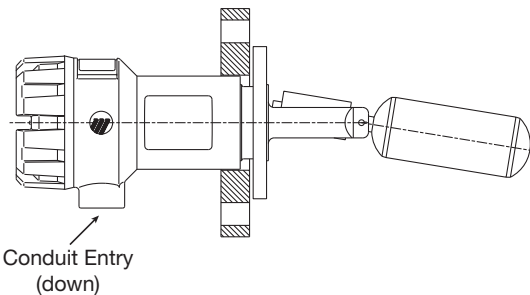

Figure 3
3. Carefully align TUFFY flange raised face (cladding) with the face of the vessel mounting flange. Slide the flange on the control to the vessel mounting flange and align bolt holes. Ensure that the conduit entry is pointing down. **See Figure 3.**